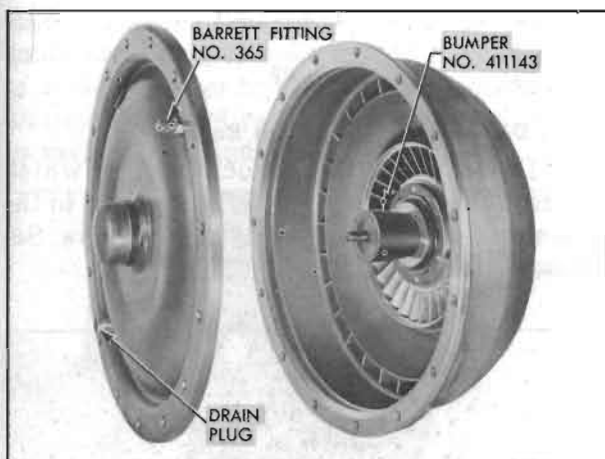

Figure 4-95—Bumper and Barrett Fitting Installed for Pump Test
1. Insert the rubber bumper into the primary pump hub as shown in figure 4-95.